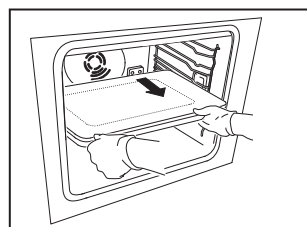

Fig. 3
1. With both hands, grasp the induction plate and remove it. Some slight force will be needed to disengage the plate from the socket (Fig. 3).